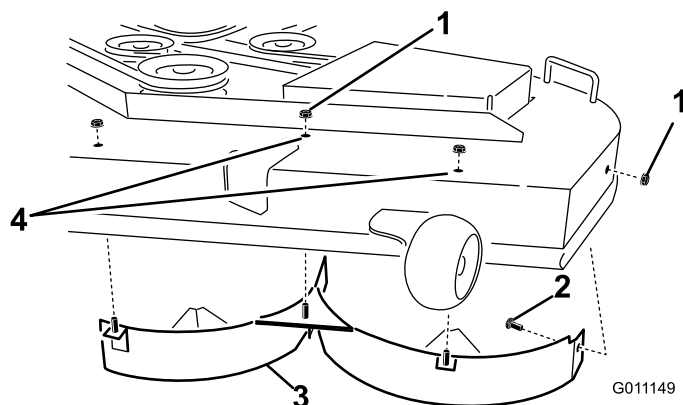

Figure 36
6. Remove the three locknuts (5/16 inch) secured to the welded posts of the left baffle on the top of the mower deck at the center, left of center and left positions (Figure 36). Remove the carriage bolt and
7. Remove the left baffle from the mower deck as shown in Figure 36.
8. Locate the two bolts in loose parts and use the existing locknuts. Install these fasteners into the holes shown in Figure 36 on the mower deck to prevent flying debris. Install the bolt up, through the underside of the deck and use an existing locknut to secure from the topside.